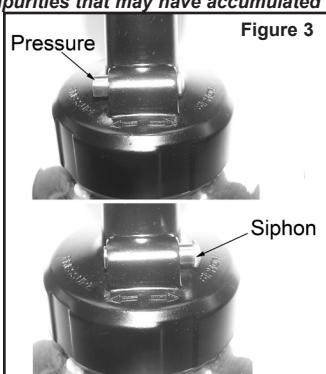

Figure 3
1. Push the button (N) so that it is extended towards the word “pressure” (see Figure 3).
- Push the button (N) so that it is extended towards the word "siphon" (see Figure 3).